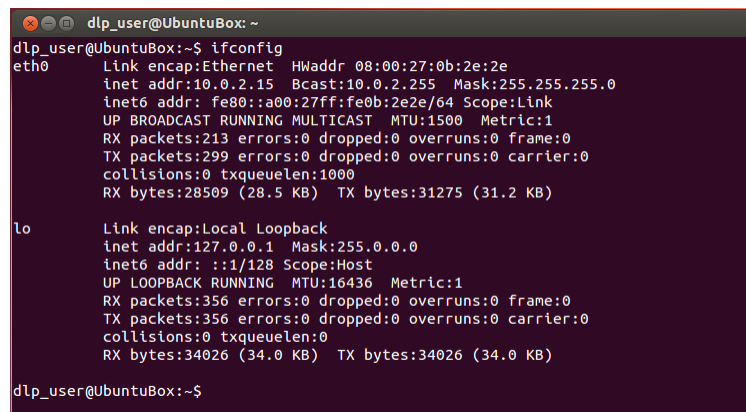

Figure 2-12. Ubuntu Command Terminal "ifconfig" Result Before USB Setup
5. Reboot the Linux system and run "ifconfig." See Figure 2-12.